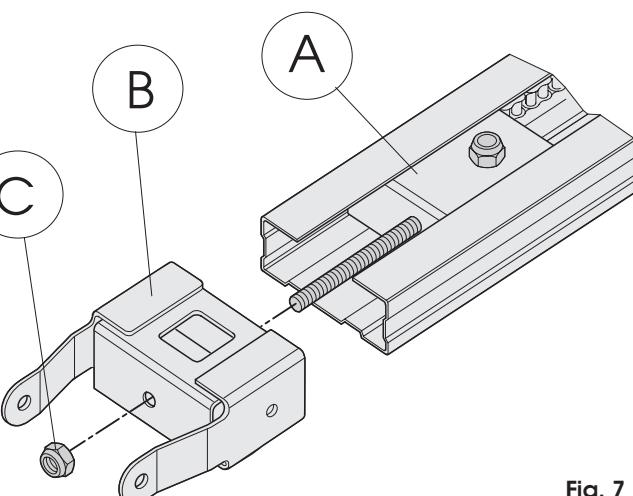

Fig. 7
- Slide the transmission unit (Fig. 7 ref. A) along the whole sliding guide, until it is near the front terminal, the one opposite the drive coupling.
- Assemble the front fitting (Fig. 7 ref. B) to the transmission unit (Fig. 7 ref. A).
- Apply slight tension to the chain, tightening the nut (Fig. 7 ref. C.).